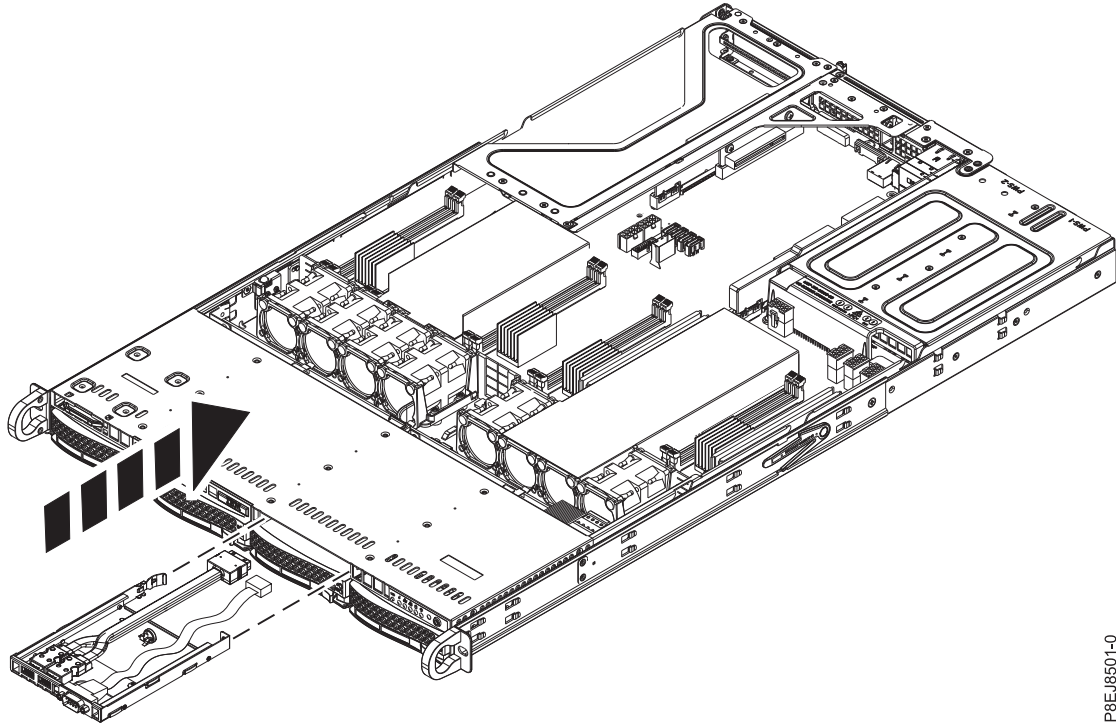

Figure 62. Inserting the USB cable and connectors
2. Route the USB and serial cables in through the front of the system, then slide the USB cable and connectors into of the front of the system as shown in Figure 62 on page 59, until it clicks into place.